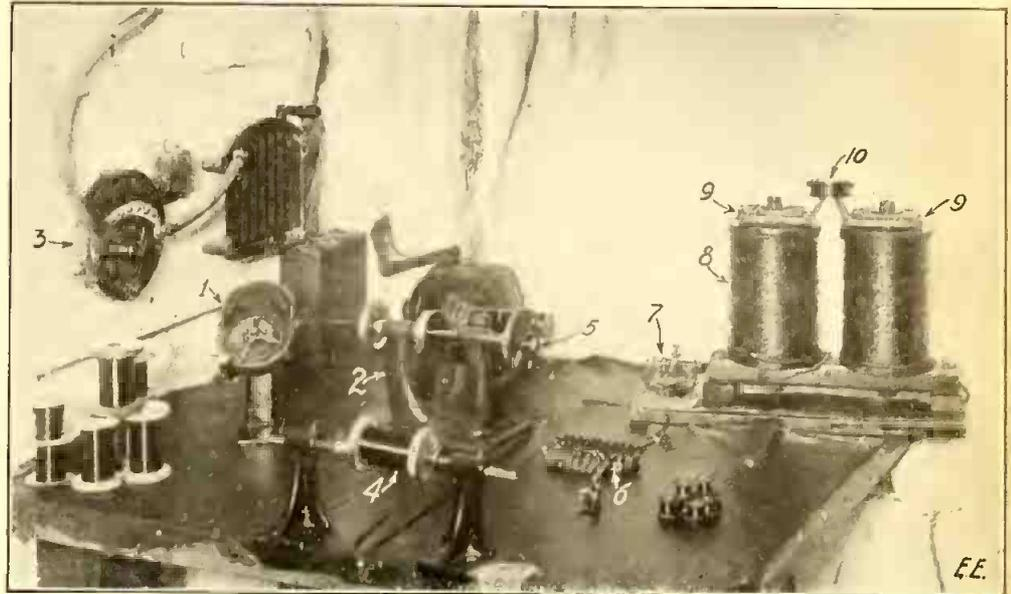

Fig. 8. Showing a Corner of the Winding and Magnetizing Shop Where Wireless Receivers Are Built.
The photograph (Fig. 8) shows one of the winding and magnetizing tables used in making the "Electro" radio receivers.
The most important as well as interesting operation is the winding of the very small telephone bobbin. A specially constructed machine does this work. Fig. 8 shows it; 1 is the automatic revolution counter, which counts the turns of wire on each bobbin. Each style receiver bobbin is wound to a certain number of turns. Thus each bobbin of a 1,500-ohm receiver is wound to 6,600 turns, while each bobbin of a 1,000-ohm receiver is wound to 5,500 turns, and so on. When the hand of the dial arrives at the, say, 6,600th turn, a bell rings and the operator stops. As the wire is remarkably uniform, the resistance of each bobbin will not vary for more than 1 to 2 ohms. The winding machine proper 2 is operated by an electric motor. The control of the machine is foot-operated. The speed regulator is shown at 3. The fine wire supply-spool is shown at 4, while the bobbin 5, in process of winding, is held in an ingenious chuck. Completed bobbins are shown at 6.
After calibrating, the receiver is ready to receive its magnetic baptism. Fig. 8, at the right, shows the apparatus that does it. The extremely powerful electro-magnets connect without any resistance to the 220-volt power current. A large manipulating key 7 serves to close and break the current, which circulates around the spools 8. When energized, this electro-magnet is capable of lifting over 500 pounds. Only a very powerful electro-magnet produces satisfactory receivers.